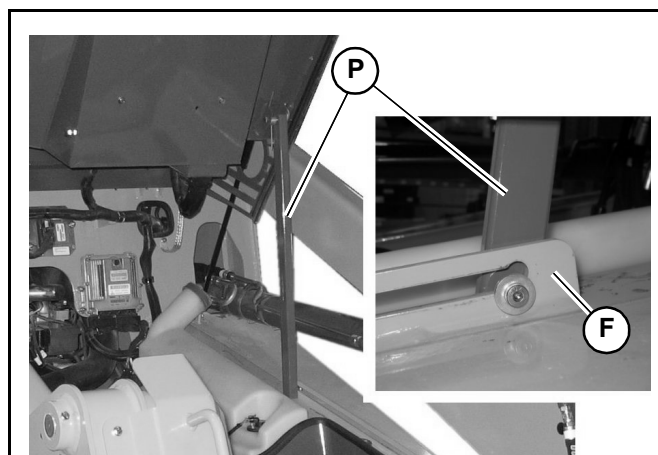

**Fig. 117 – ROPS/FOPS Tilting**
4. Raise the ROPS/FOPS up as far as it will go (Fig. 117).